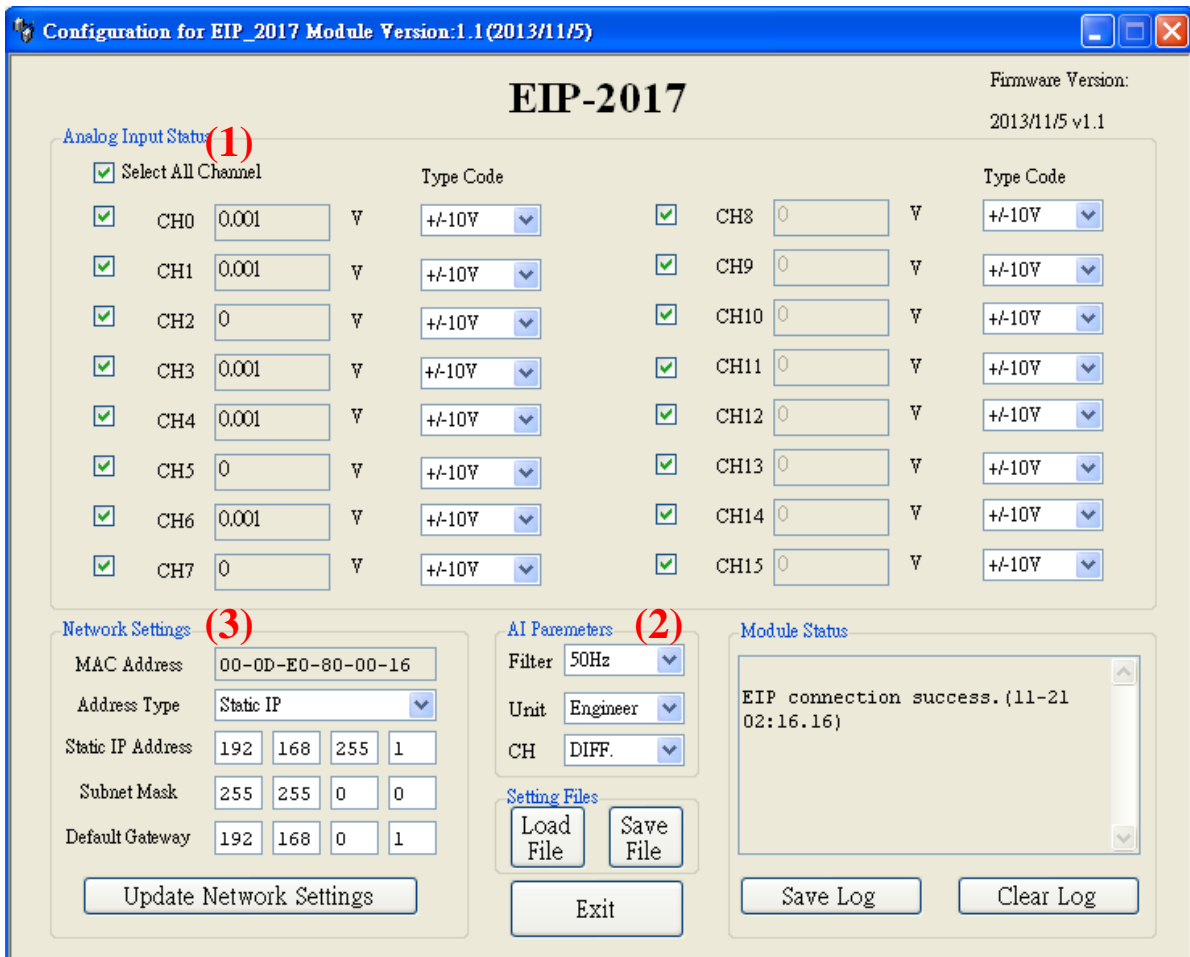

Figure 4-2 EIP-2000 Utility configurations
3. Click the **EIP-2017** or other **EIP-2000** modules on the device list below to open the configuration dialog of **EIP-2000**. Each EIP-2000 module has its own configuration interface. Please refer to Figure 4-2.